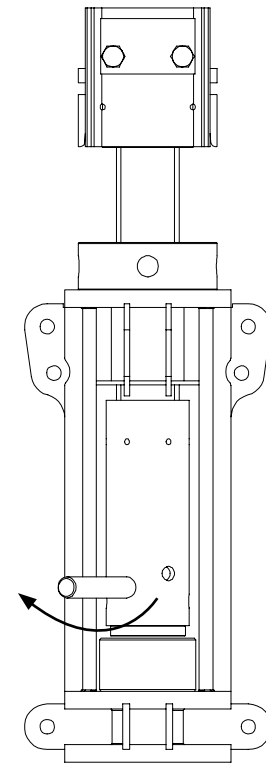

Fig. D1.06
3. Turn the spindle sleeve (28.3) with Mounting Shaft VST (29) in a clockwise direction until it rests against the hydraulic cylinder (43.4). (Fig. D1.06)